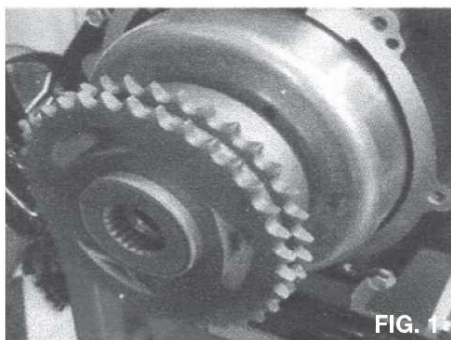

FIG. 1
3. Remove the center bolt on the compensator sprocket assembly (figure 1) and the clutch retaining nut.